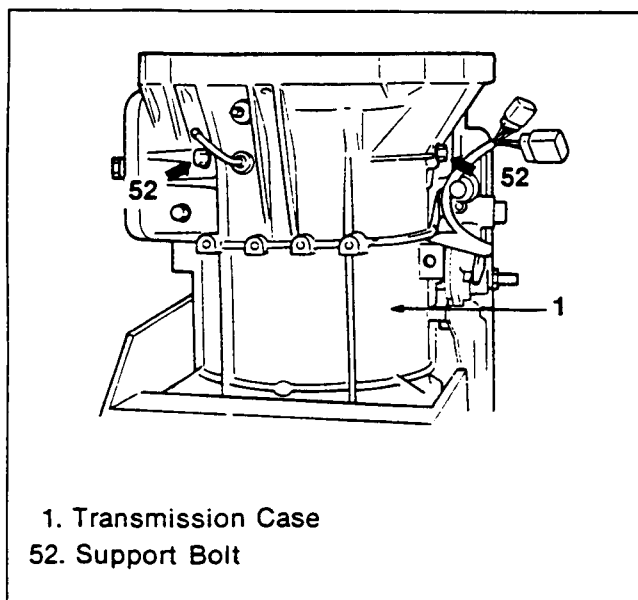

Figure 18. Drum Support Bolt Removal
Drum Support (Figures 18, 19, 20, 21 and 22)
1. Remove bolts (2 pcs) from the drum Support (figure 18).